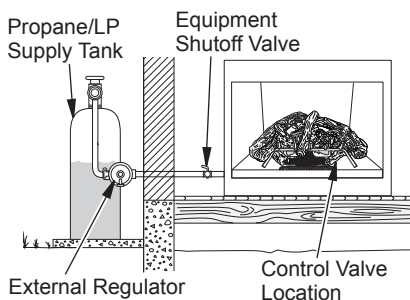

Figure 14 - Checking Gas Joints for Propane/LP Gas
3. Check all joints from gas meter to equipment shutoff valve for natural gas or propane/LP supply to equipment shutoff valve for propane/LP (see Figure 14 or 15). Apply a noncorrosive leak detection fluid to all joints. Bubbles forming show a leak.
4. Check all joints from equipment shutoff valve to control valve (see Figure 14 or 15). Apply a noncorrosive leak detection fluid to all joints. Bubbles forming show a leak.